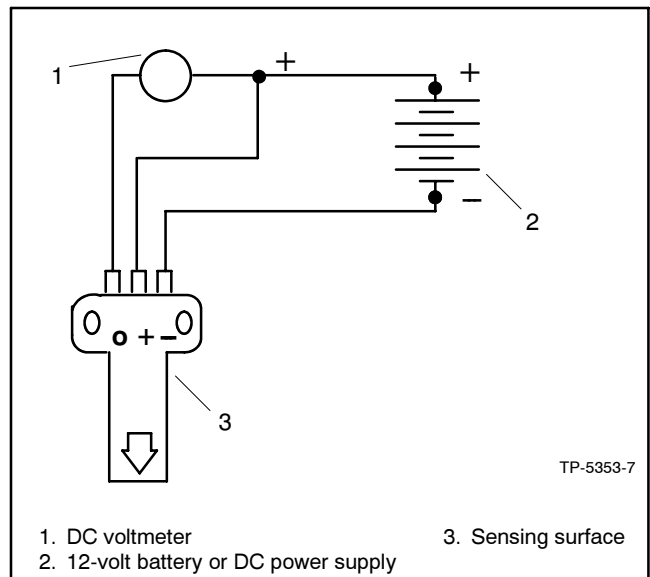

Figure 6-33 Speed Sensor Test
3. Connect speed sensor, DC voltmeter, and DC voltage source as shown in Figure 6-33.